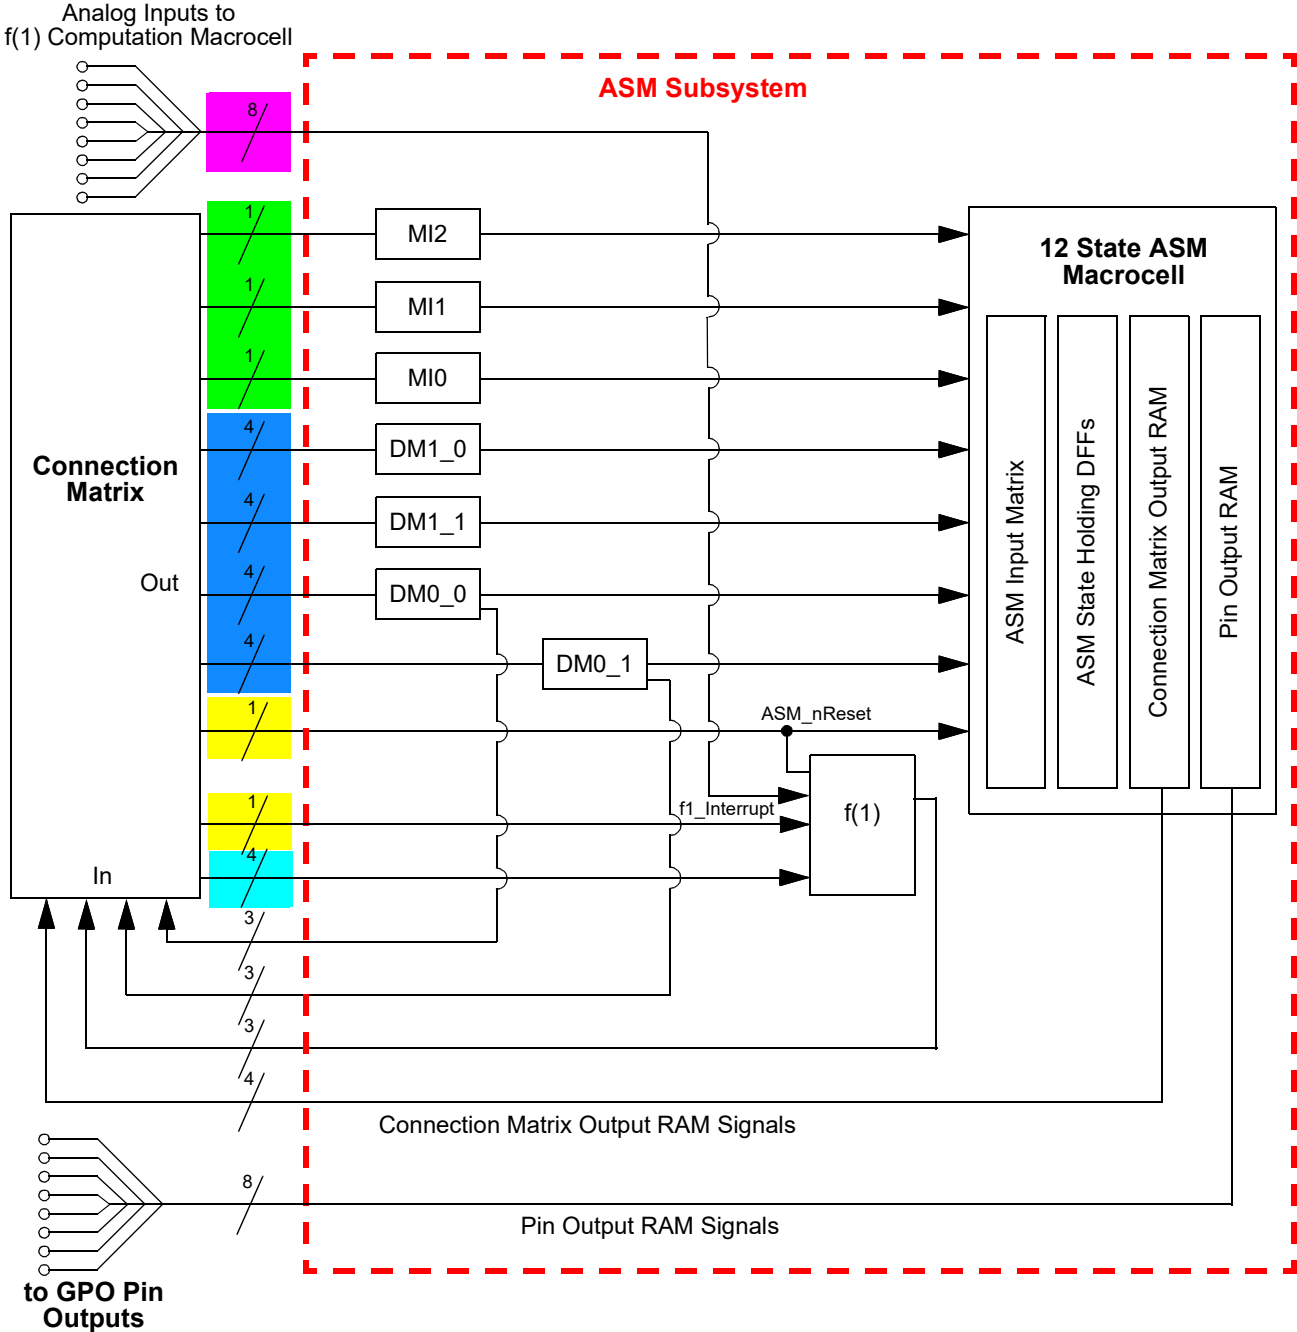
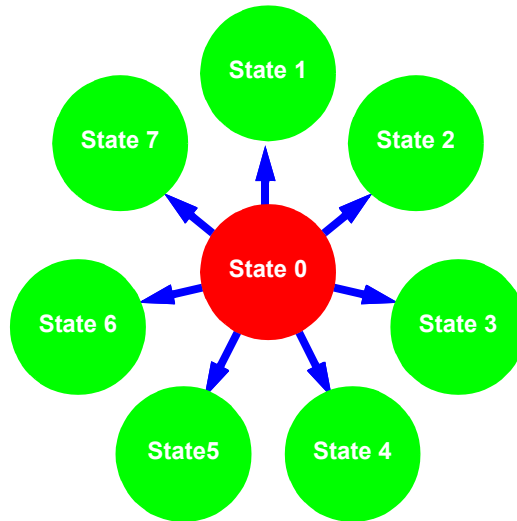
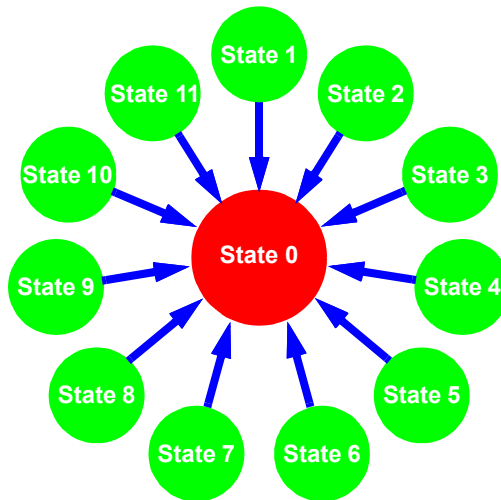

Figure 90: ASM Subsystem Input Signals
Figure 91: Maximum 7 State Transitions out of a Given State
Figure 92: Maximum 11 State Transitions into Given State
The ASM Subsystem has a total of 25 digital input signal lines, as shown in Figure 90, which all come from the Connection Matrix outputs. Of these 25 input signals, 3 are user selectable inputs going directly from the Connection Matrix to the three Matrix Interface (MI) macrocells. There are a total of 16 input signals that go to the DM_x macrocell, four per macrocell. There is 1 ASM_nReset input that is for driving a state transition in both the ASM macrocell and the f(1) Computation Macrocell to an Initial/Reset state. There are 4 digital input signals coming from the Connection Matrix to the f(1) Computation Macrocell. There is also 1 dedicated Interrupt input to the f(1) Computation Macrocell that will halt any active operations and transfer control back to the ASM macrocell. Each of the 25 input signals are level sensitive.
There are a total of 16 digital input signals to the ASM Subsystem which are inputs directly to the DM macrocells. These 16 signals are shown in Figure 90, highlighted in blue. While there are 4 input signals coming from the Connection Matrix and going to each DMx_x macrocell, there is only 1 output signal from each of these macrocells, which goes directly to the ASM macrocell. There are also 3 signal lines that come directly from the Connection Matrix and go to the three Matrix Interface (MI) macrocells which can drive state transitions. These signals are shown in Figure 90, highlighted in green. This sets an upper bound on the number of transitions that the user can select going **out of** a particular state to be 7, shown in Figure 91. There is no limitation on the number of unique transitions that can be supported going into a particular state, the user can select to have transitions going from a state to all other states, shown in Figure 92. Each of these input signals to the ASM macrocell is level sensitive, and active high. A high level input will trigger a state transition.
There are a total of 8 analog inputs coming from various pins which can be muxed into the positive input for the f(1) Analog Comparator inside the f(1) Computation Macrocell. These 8 signals are shown in Figure 90, highlighted in pink. The f(1) Analog Comparator can be re-programmed for analog input source and negative input reference settings. The user selections for both positive input signal and negative reference are included as part of the information stored in the f(1) Command Register Table. This allows the user to make different analog measurements that are state dependent in their analog sources and reference settings.
The ASM macrocell also has a ASM_nReset input. This input to the ASM macrocell is level sensitive and active low. This signal is shown in Figure 90, highlighted in yellow. An active signal on this input will drive an immediate state transition to the user-defined Initial/Reset state. The user can choose which state within the ASM Editor inside GPAK Designer will be the reset state.
There is also 1 dedicated f1_Interrupt input to the f(1) Computation Macrocell that will halt any active operations and transfer control back to the ASM macrocell. This signal is shown in Figure 90, also highlighted in yellow.